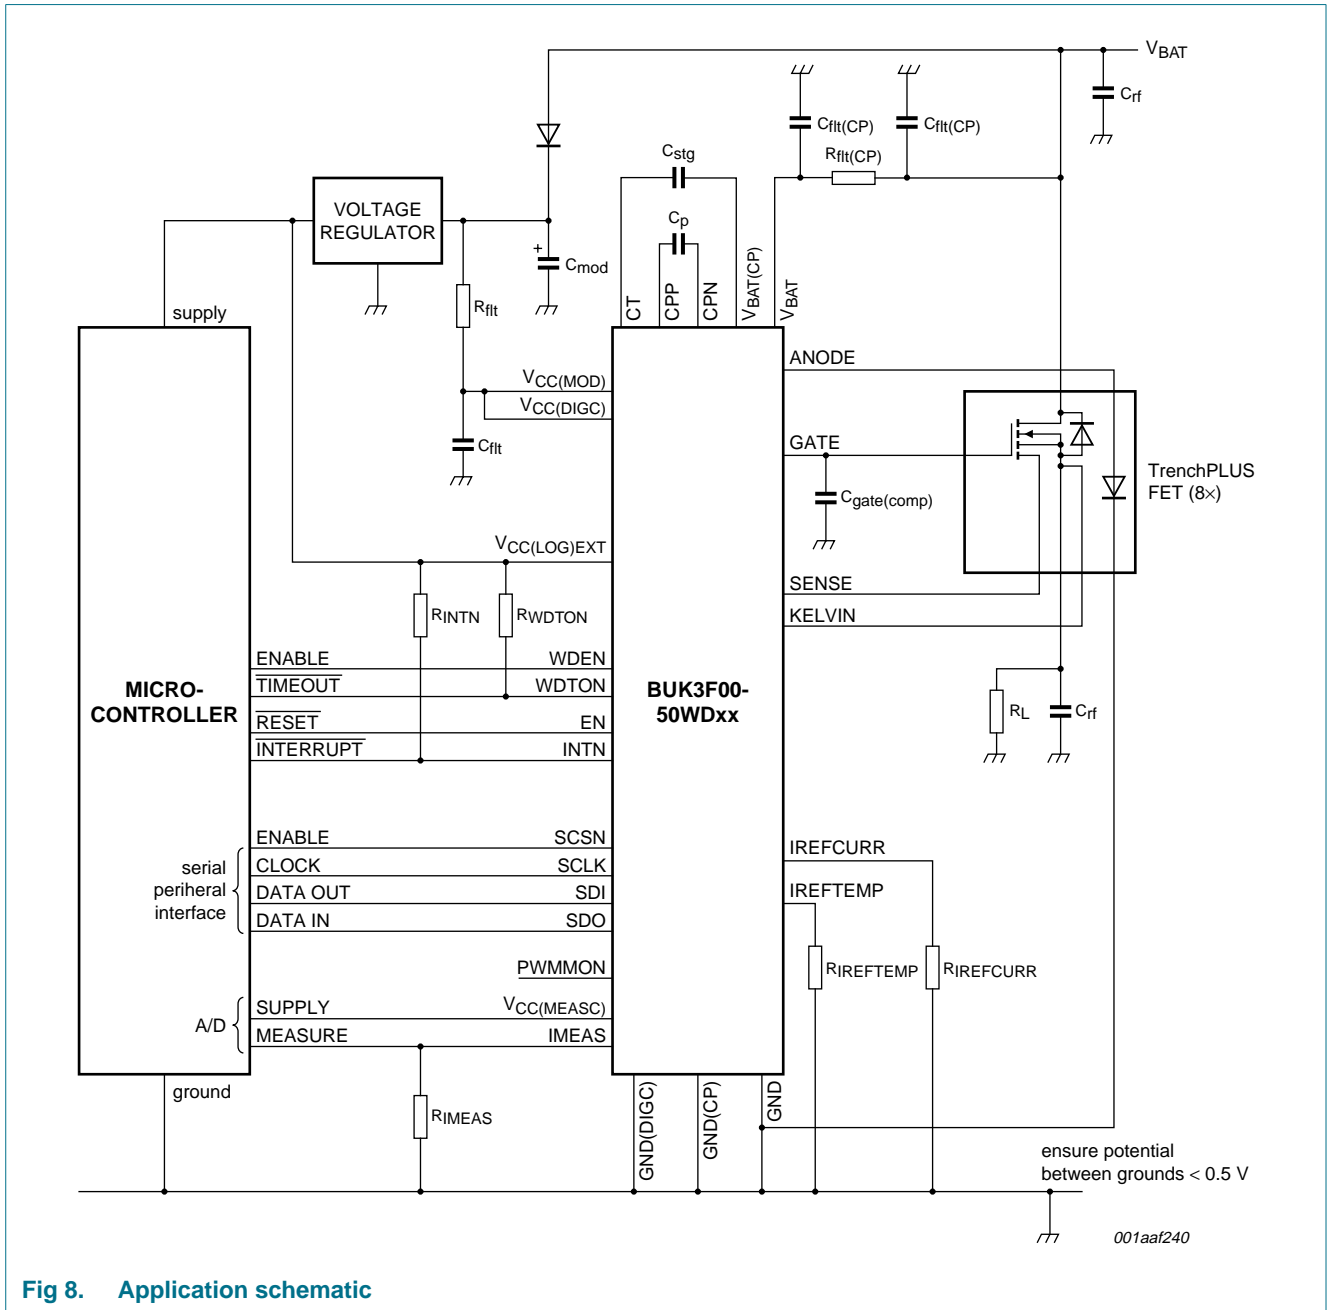

Fig 8. Application schematic
- Connected through the internal resistor to pin V_{BAT} and a filter circuit to the battery supply (as shown in Figure 8).
Direct input pin resistors (not shown in Figure 8)